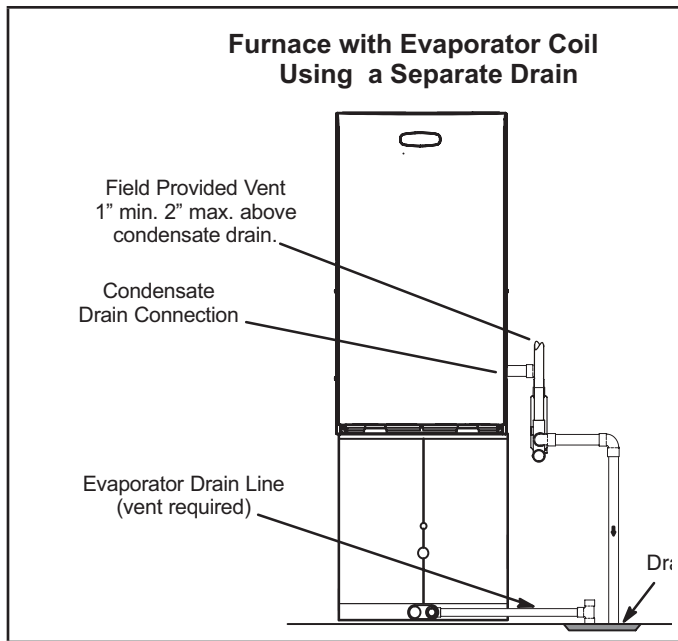
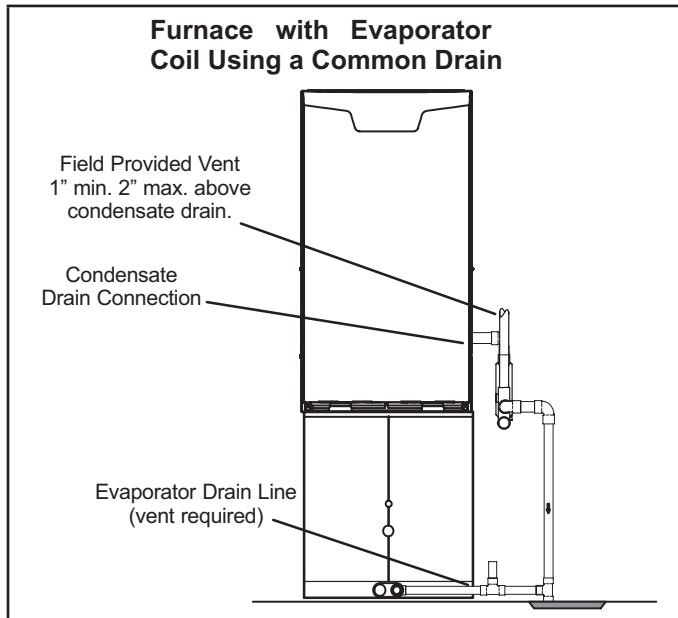

FIGURE 51
FIGURE 52
- 5 - "FIGURE 51" shows the furnace and evaporator coil using a separate drain. If necessary, the condensate line from the furnace and evaporator coil can drain together. See "FIGURE 52" and "FIGURE 53". The field provided vent must be a minimum 1" to a maximum 2" length above the condensate drain outlet connection.